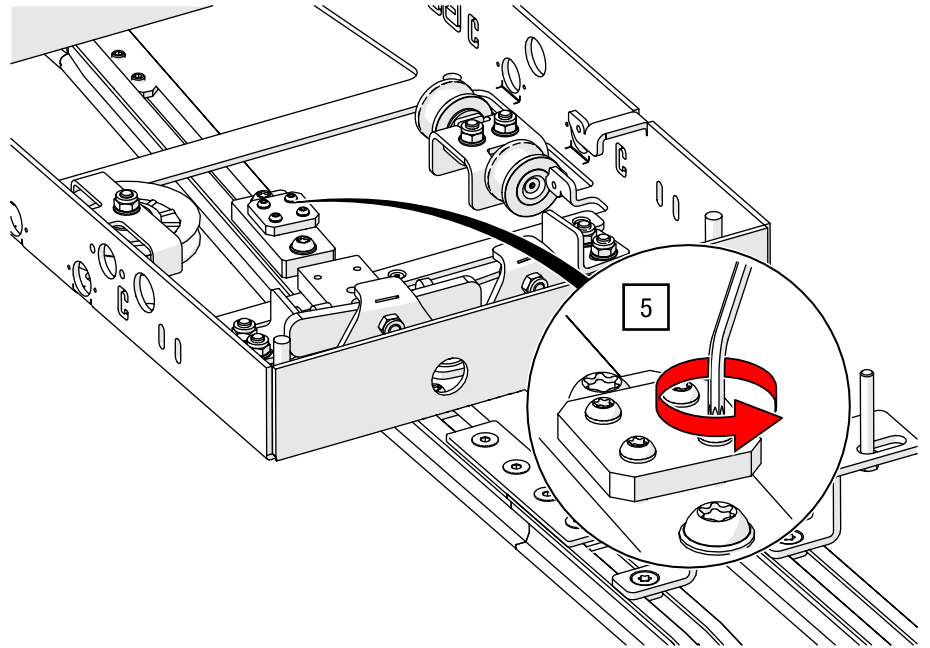

Fig. 134: Track switch – Release clamping plate
5. Loosen the clamping plate on the cord plate of the switch finger using a TORX®-key T20 (see Fig. 134).